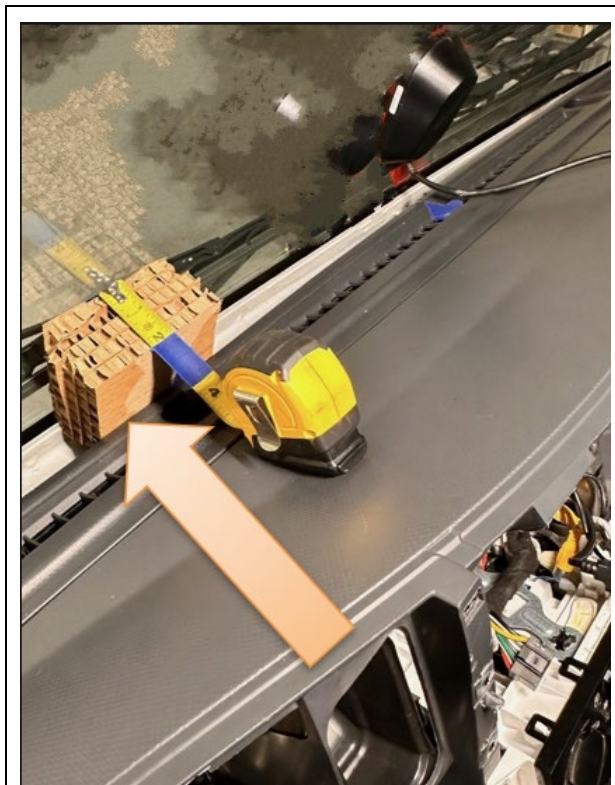

Figure 28
23. Pull the IP away from the windshield to create a 2" gap between the IP and the windshield as shown in Figure 28. Place a piece of wood, cardboard or rubber block (e.g. rubber mallet head) directly inline from the driver's right HVAC vent to maintain this gap.